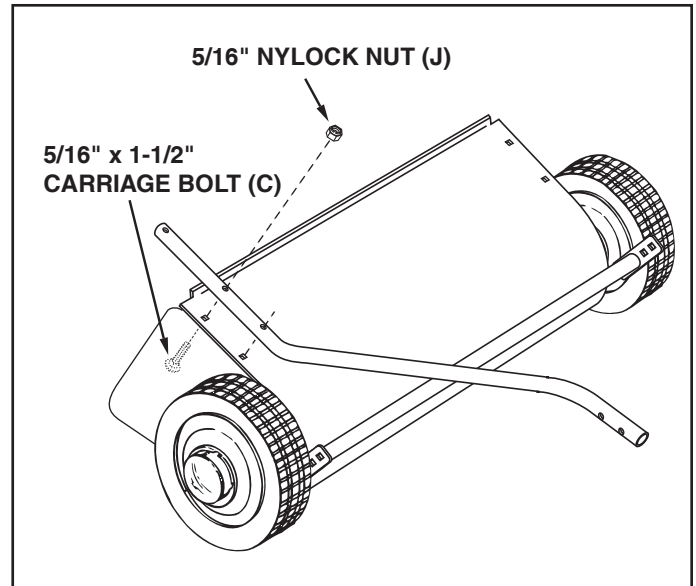

FIGURE 4
STEP 4: (SEE FIGURE 4)
- Assemble the R.H. hitch tube to the sweeper housing using two 5/16" x 1-1/2" carriage bolts (C), and two 5/16" nylock nuts (J). **Do not tighten yet.** Repeat for the L.H. hitch tube.